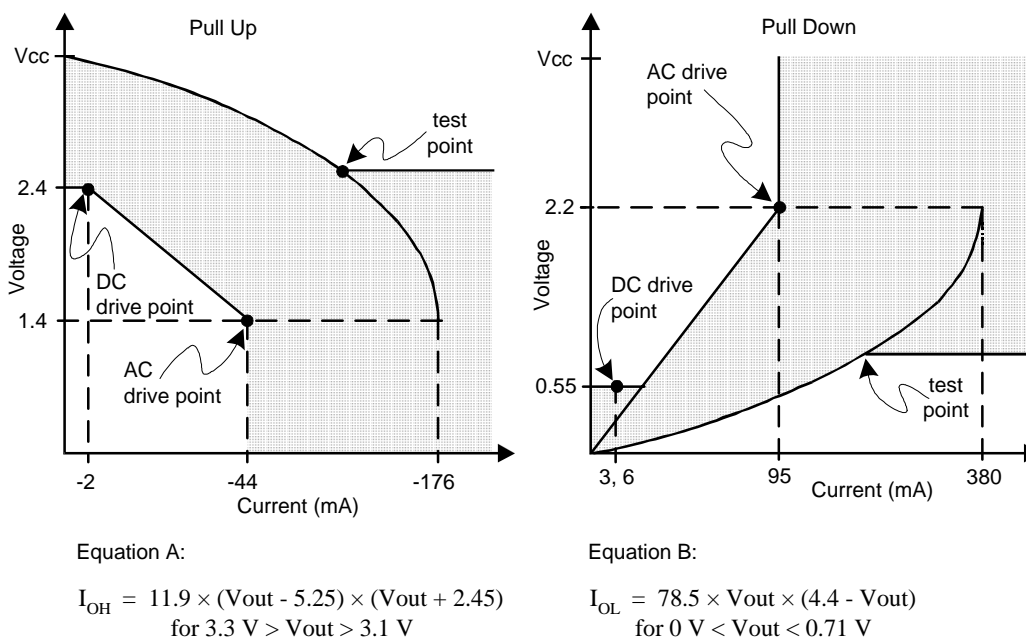

Figure 1. AC Characteristics
5. Refer to V/I curves in Figure 1. Specification does not apply to PCICLK and RST# signals. Switching Current High specification does not apply to PME#, CLKRUN#, and INTA# which are open drain outputs.